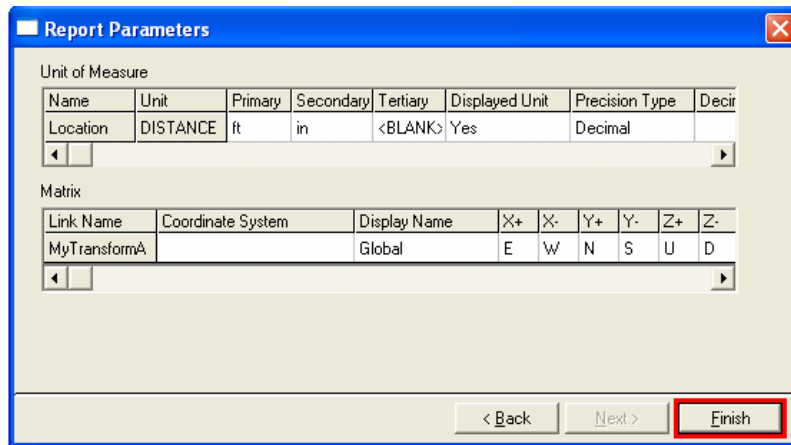

Figure 5: Report Parameters Dialog Box
10. The **Report Parameters** dialog box displays the **Unit of Measure** and **Matrix** properties for the report. You can change these properties as per your requirements, and then click **Finish**, as shown in Figure 5.